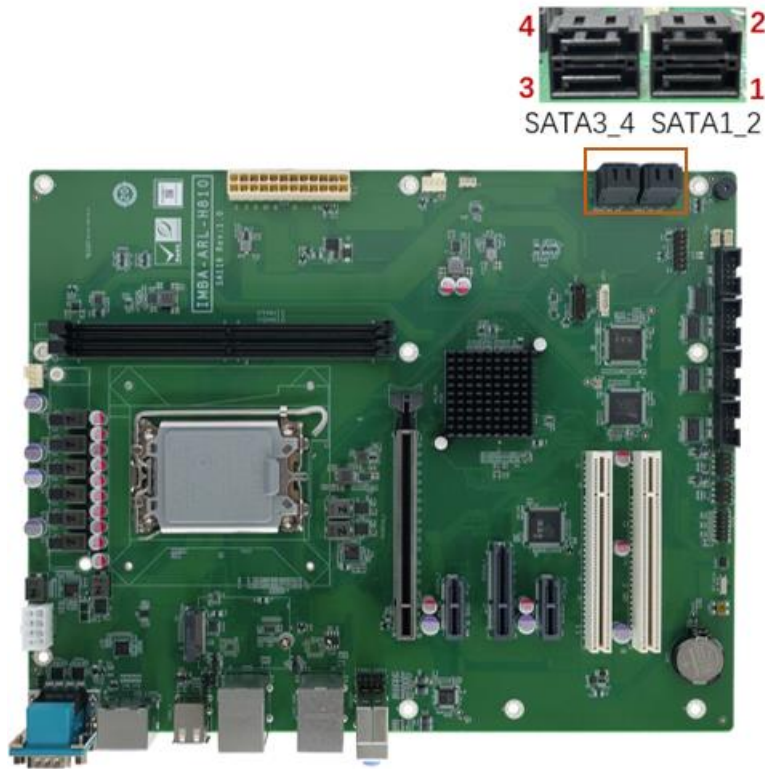

Figure 3-18: SATA 6Gb/s Connector Locations
- CN Location:** See **Figure 3-18**